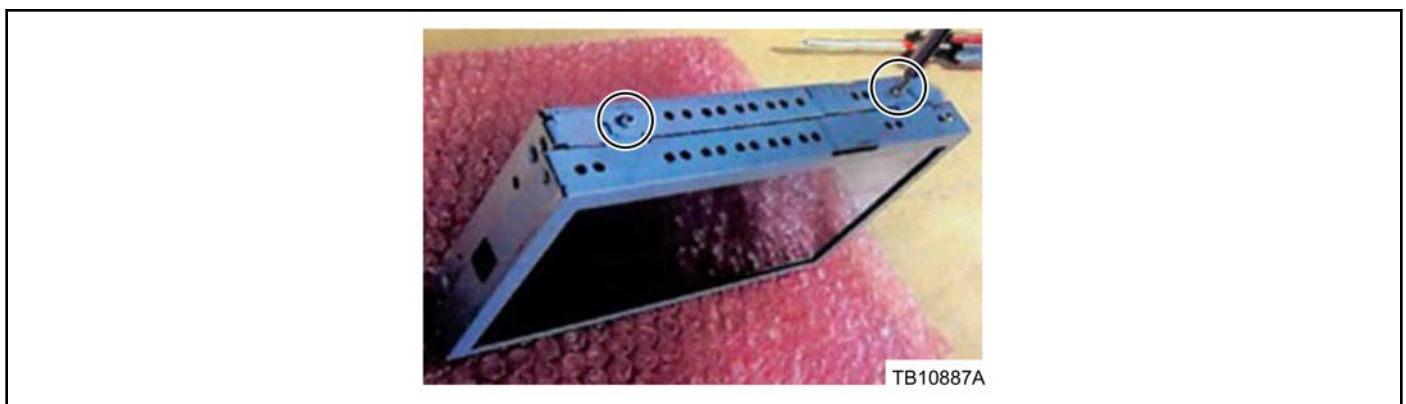

Figure 1 - Article 16-0066
4. Remove the fasteners on the top and bottom of the FDIM that secure the back cover. (Figure 1)